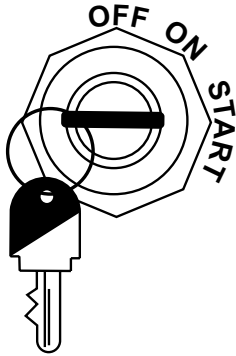

Figure 15. Engine ON/OFF Switch
- Place the ignition key (Figure 15) in the **START** position and hold it until the engine starts. When the engine starts, release the key, allowing it to return back to the **ON** position.